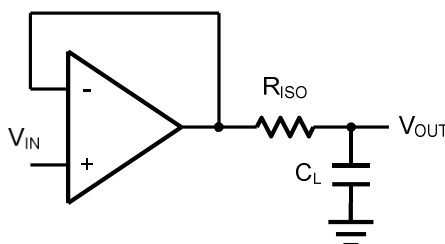
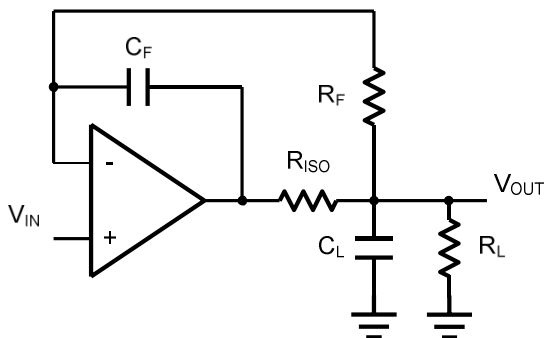

Figure 2. Indirectly Driving a Capacities Load Using Isolation Resistor
Figure 3. Indirectly Driving a Capacities Load with DC Accuracy
The HX855X family is optimized for bandwidth and speed, not for driving capacitive loads. Output capacitance will create a pole in the amplifier's feedback path, leading to excessive peaking and potential oscillation. If dealing with load capacitance is a requirement of the application, the two strategies to consider are (1) using a small resistor in series with the amplifier's output and the load capacitance and (2) reducing the bandwidth of the amplifier's feedback loop by increasing the overall noise gain. Figure 2. shows a unity gain follower using the series resistor strategy. The resistor isolates the output from the capacitance and, more importantly, creates a zero in the feedback path that compensates for the pole created by the output capacitance.
The circuit in Figure 3 is an improvement to the one in Figure 2. R_F provides the DC accuracy by feed-forward the V_{IN} to R_L . C_F and R_{ISO} serve to counteract the loss of phase margin by feeding the high frequency component of the output signal back to the amplifier's inverting input, thereby preserving the phase margin in the overall feedback loop.